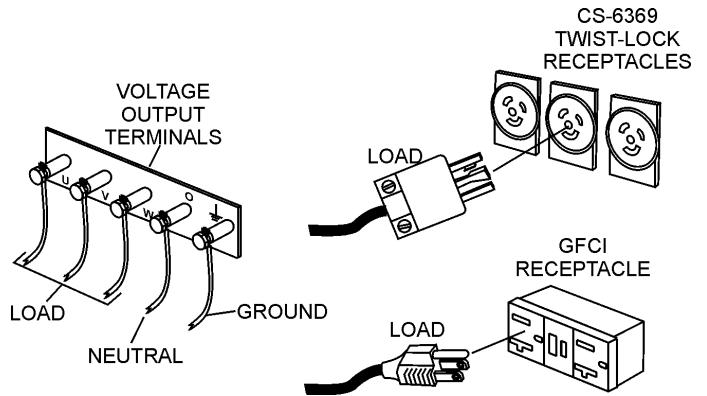

Figure 43. Load Connections
2. Connect the load to the UVW0 terminals or auxiliary receptacles as shown un Figure 43. These load connection points can be found on the output terminal panel. To gain access to the UVW0 terminals or other power receptacles, unlock the access cover and lift the door.